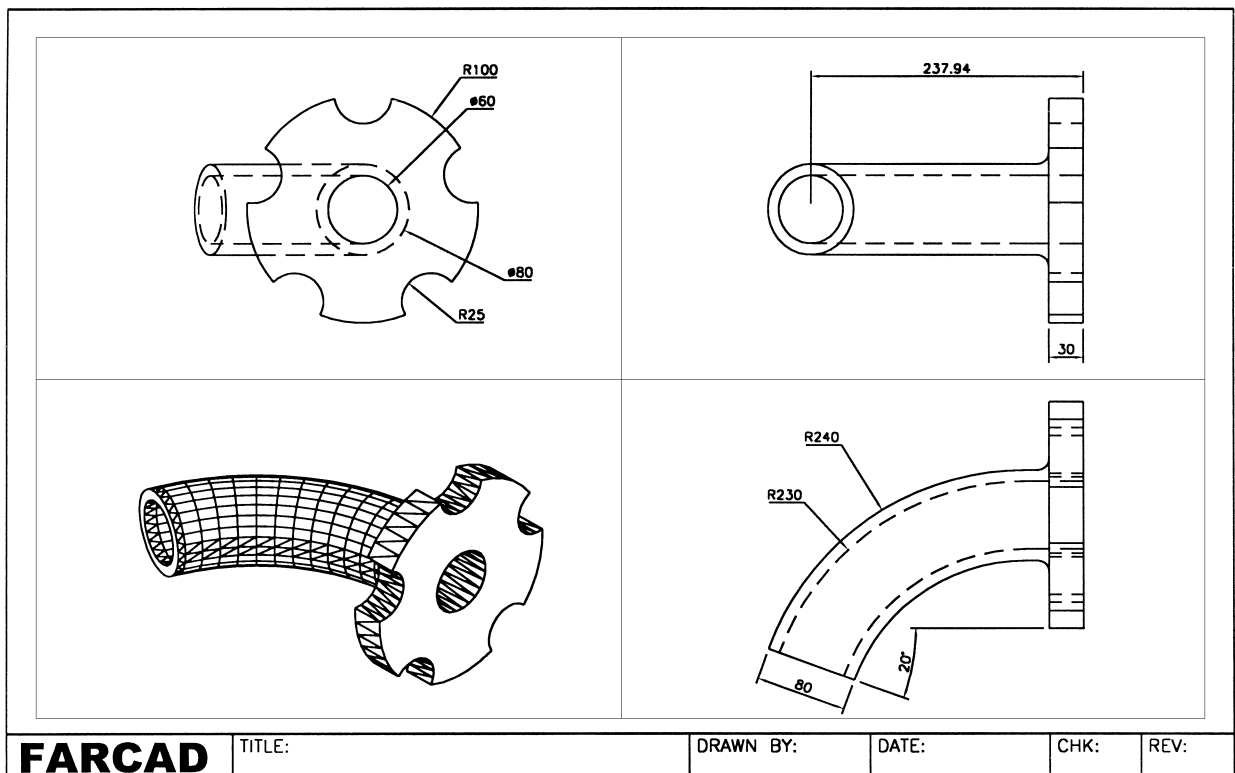

Figure 39.2 The PROFILE command with the flange/pipe model.
- 1 Open the pipe/flange model created in chapter 33 with MVLAY1 tab, UCS BASE, layer MODEL, lower left viewport active and refer to Fig. 39.2